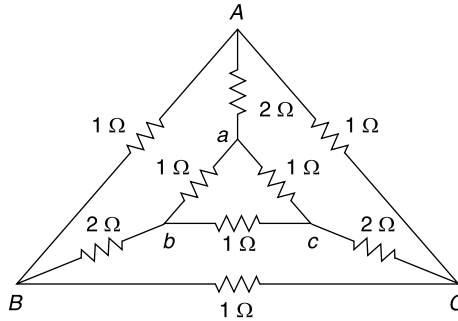

Fig. 4.179
18. In the network shown in Fig. 4.179 find the resistance between (i) A and a (ii) C and A.